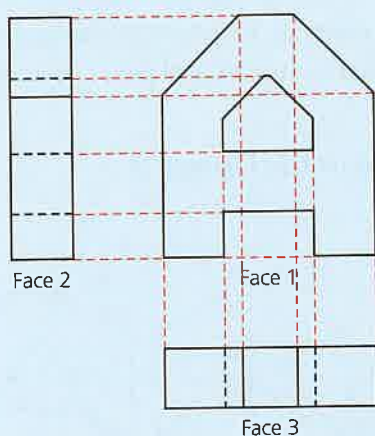

Figure 6.11 Resulting first-angle projection
Step 3: Repeat the projection method for the top face (face 3), placing the resulting top view below the front view (Figure 6.11).